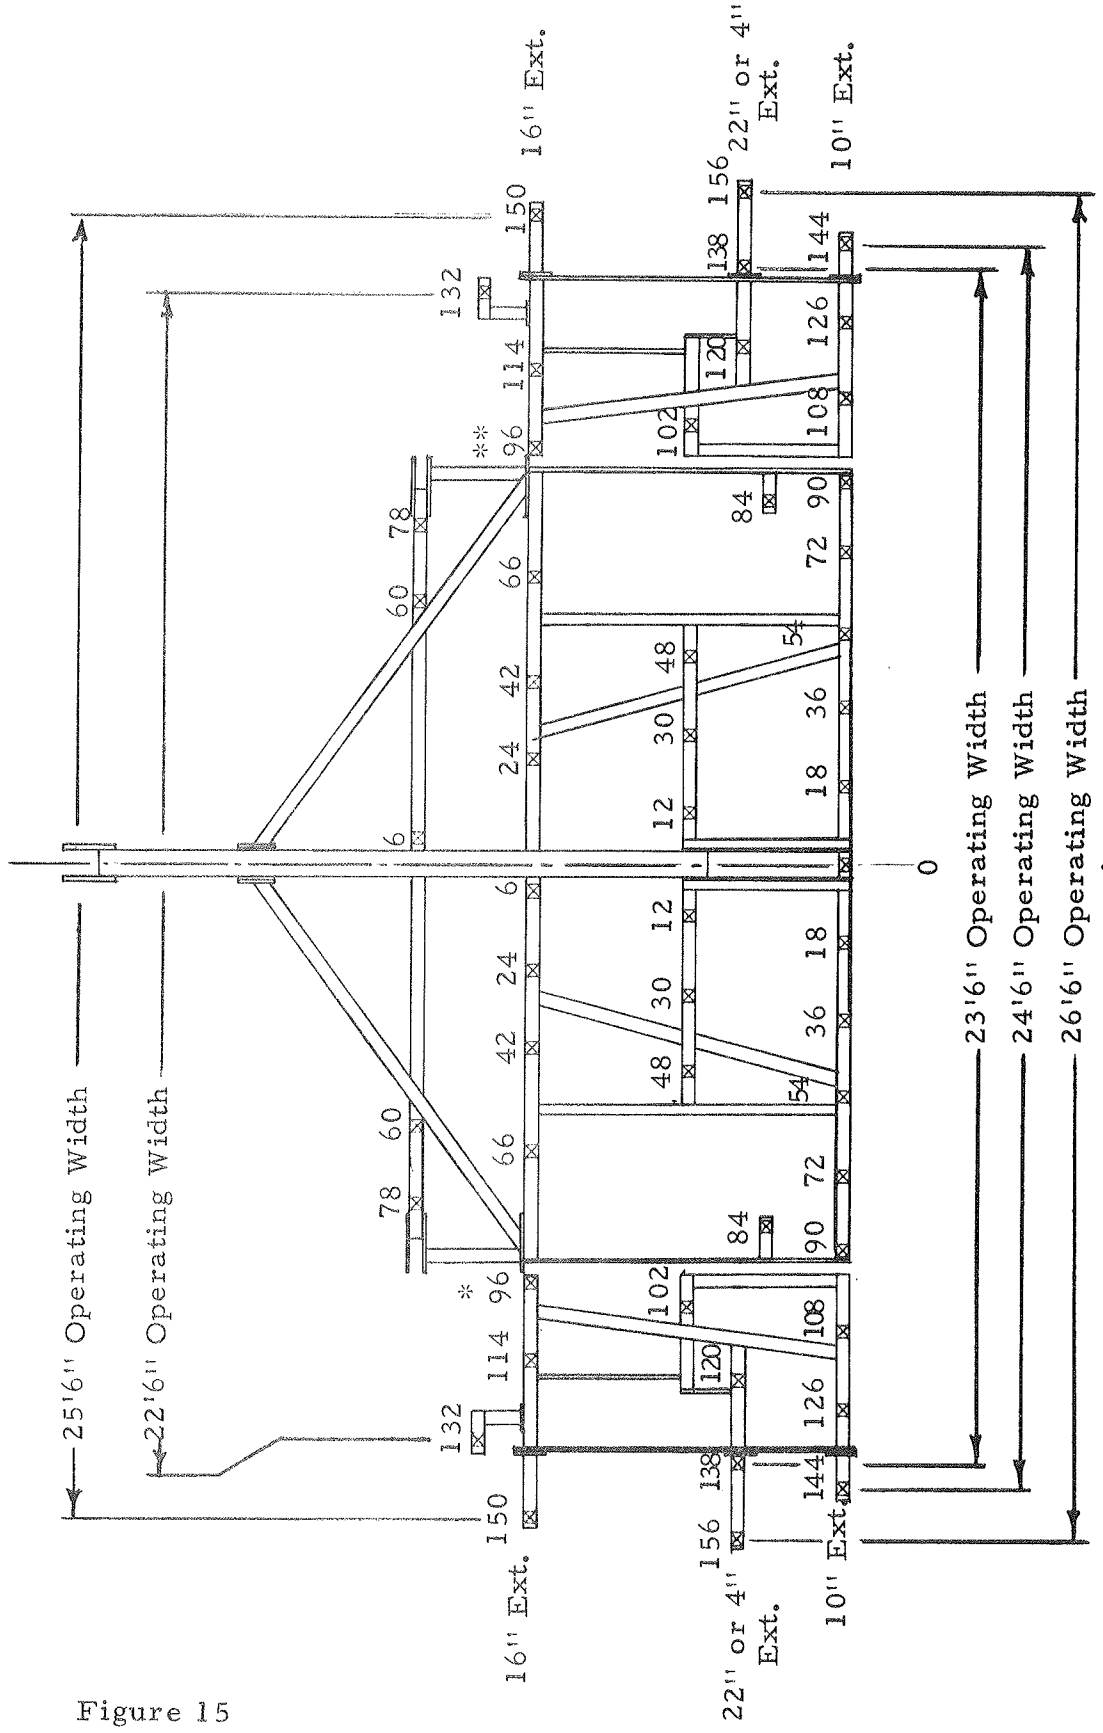

Figure 15
15. Attach extension assemblies with hardware provided. See shank spacing charts, Figures 15, 16, 17 and 18. Note for wide wing machines: It is necessary to place extensions in staggered pattern as shown to prevent interference when wings are folded. Also, forward extensions must be located to allow stabilizer wheels to swivel 360° without interference.